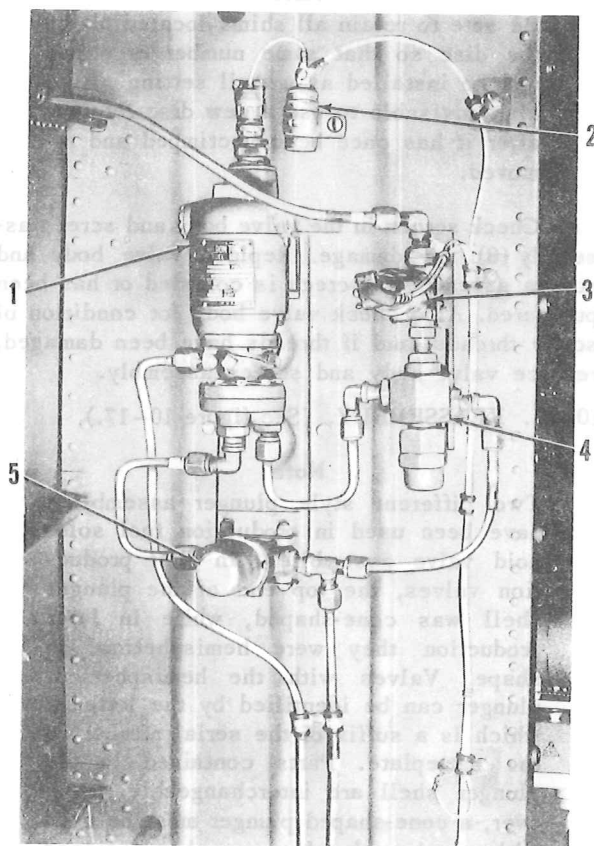

Figure 10-16. Heater Control System
10-60. DESCRIPTION. (See figures 10-1, 10-2, and 10-16.) The heater control system controls fuel flow from forward fuel tank to the inlet port of heater (13, figure 10-2). The system consists of a forward fuel shutoff valve (28, figure 10-1), fuel filter (5, figure 10-16), heater fuel pump (1), pressure relief valve (4), aft fuel shutoff valve (13, figure 10-1), and necessary fuel lines. Fuel shutoff valves are electric solenoid types, controlled by cabin heat switches
- a. Disconnect inlet and outlet tubes from elbows in pressure relief valve (4, figure 10-16).
- b. Disconnect electrical wiring and outlet tube from aft shutoff valve (3).
- c. Remove screws, washers, nuts, and spacers that hold shutoff valve to bracket. Remove pressure relief valve (4) and aft shutoff valve (3) as a unit.
- d. Loosen jam nut and unscrew aft shutoff valve (3) from union in the outlet port of pressure relief valve (4).
a. Check to see that a jam nut and gasket are installed on union in outlet port of pressure relief valve (4, figure 10-16). Screw inlet port of aft shutoff valve (3) onto union. Tighten jam nut.
10-77. DESCRIPTION. (See figure 10-16.) The heater fuel pump (1) is secured to a bracket on the forward bulkhead in heater compartment. The pump
a. Disconnect electrical wiring from top of heater fuel pump (1, figure 10-16).
d. Disconnect wiring from top of noise filter (2). Unscrew clamp and remove clamp and noise filter from bulkhead.